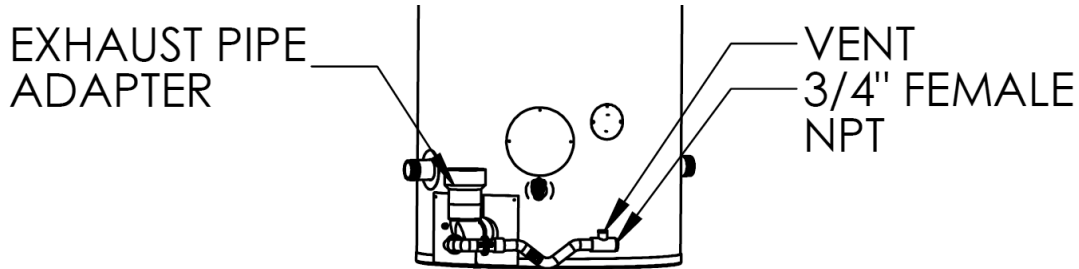

Fig. 66
5. Remove the existing anode with a 1 1/16" deep socket (Fig. 66).